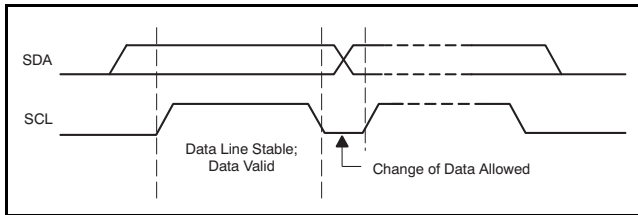

Figure 91. Bit Transfer on the I2C Bus
- The master then generates the SCL pulses, and transmits the 7-bit address and the *read/write direction bit* (R/W) on the SDA line. During all transmissions, the master ensures that data is *valid*. A *valid* data condition requires the SDA line to be stable during the entire high period of the clock pulse, as shown in Figure 91. All devices recognize the address sent by the master and compare it to their internal fixed addresses. Only the slave device with a matching address generates an *acknowledge* by pulling the SDA line low during the entire high period of the ninth SCL cycle, as shown in Figure 90 by pulling the SDA line low during the entire high period of the 9th SCL cycle. Upon detecting this acknowledge, the master knows the communication link with a slave has been established.